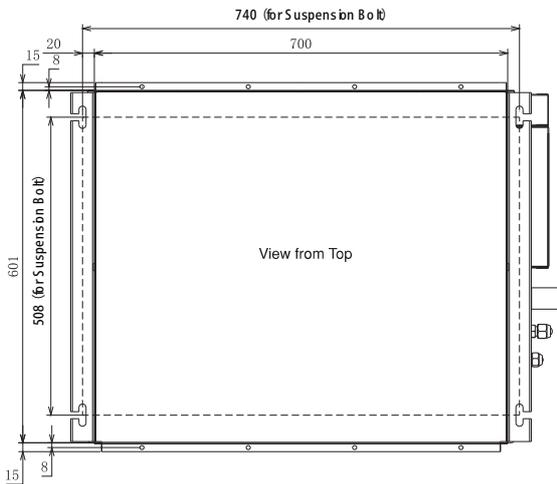

Fig. 4.3 Suspension Bolts
- (1) Mark the positions of the sling bolts, refrigerant piping connections and drain connection.
- (2) Installation dimensions are shown in Fig. 4.3.